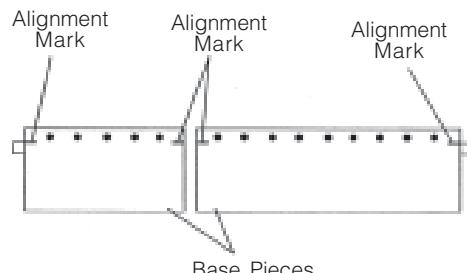

Figure 3-4. Align Base Pieces
- c. Align the base pieces by stretching a string across the four alignment marks located on the side of each piece (see Figure 3-4). If necessary, position shims under corners of base piece(s).